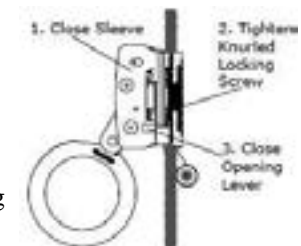

Figure 7
- iv. To install on the lifeline, raise the locking cam to the “UP” position and install the rope inside the lifeline channel and close the rope grab halves. Screw-in the knurled knob and slide the locking latch closed (See Figure 7)